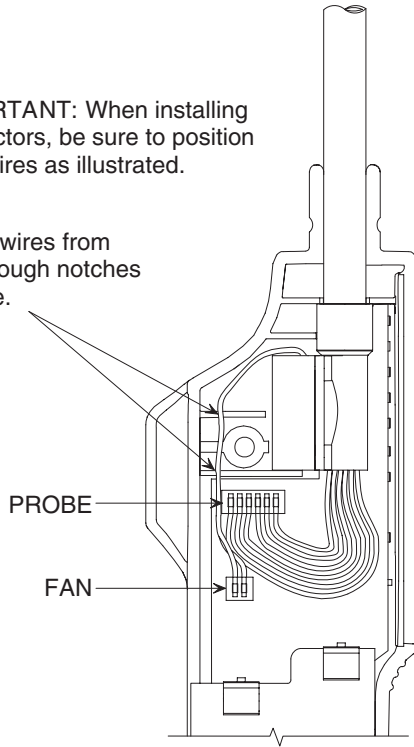

Figure 8. Connector Locations on Printed Circuit Board
7. Plug both the probe and fan connectors onto their respective header holes on the printed circuit board as shown in Figure 8.
8. Position the probe assembly between the two case halves, routing the fan wires through the notches in the case as shown in Figure 8. Then reassemble the case; push on the front retaining collar; screw on the probe tip; and reinstall the batteries.
Instrument does not turn on.	<ul style="list-style-type: none"> a. Batteries are dead or installed backward. Install four fresh ‘AA’ alkaline batteries per Section Battery Installation. b. Possible faulty refrigerant sensor. Remove refrigerant sensor and turn on detector. If detector now turns on, and after warmup shows a bad sensor (see sensor failure indication below), replace sensor per Section Sensor Replacement. c. Loose printed circuit board connector. Disassemble detector and ensure that all connectors are securely attached to the printed circuit board. See Figure 8.
Erratic gas indication.	<p>a. Sensor faulty. Replace sensor per Section Sensor Replacement.</p> <p>b. Loose sensor. Unscrew probe tip and ensure that sensor is being held firmly in socket.</p> <p>c. Loose printed circuit board connector. Disassemble detector and ensure that all connectors are securely attached to the printed circuit board. See Figure 8.</p>